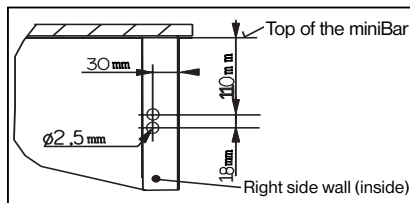

Figure 9.
1. Fit the cable with the cable bridge (A) to the side wall on the hinge side by drilling the holes according to Fig. 9.